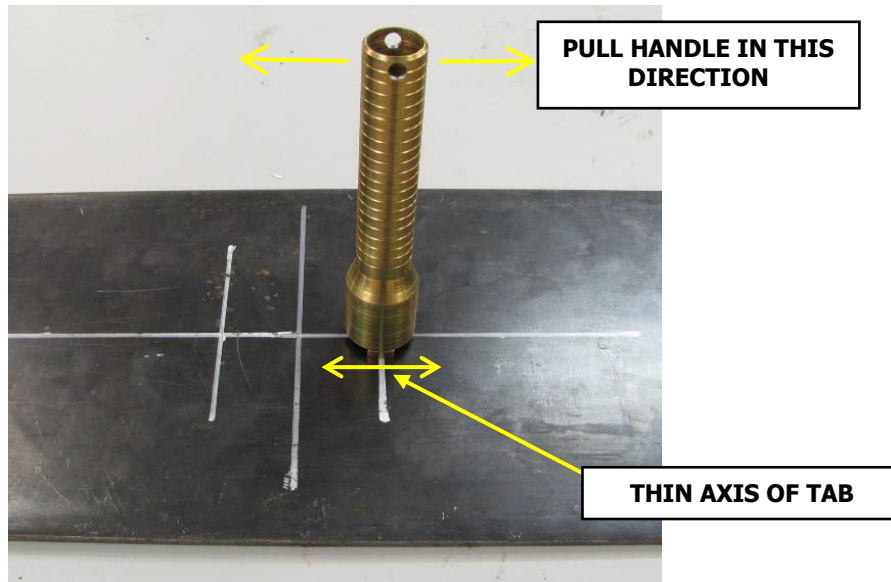

Figure 15: Removing Tab with TRT
3. In the direction of "thin" axis of the tab as shown in Figure 15, give the TRT a quick tug or tap and the tab should pop off the member surface. Depending on how well the tab is fixed, particularly on a steel surface, more force may be required. In this case, simply hit the handle of the tool with a small rubber mallet. Note that holes in the top of the tool have been supplied so that a lanyard can be added if necessary.